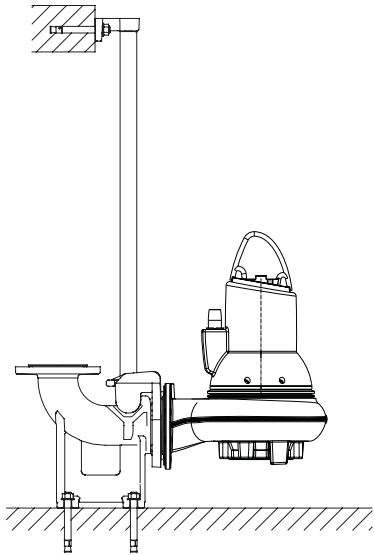

Fig. 4 Submerged pump on auto-coupling
- submerged installation on auto-coupling, see fig. 4